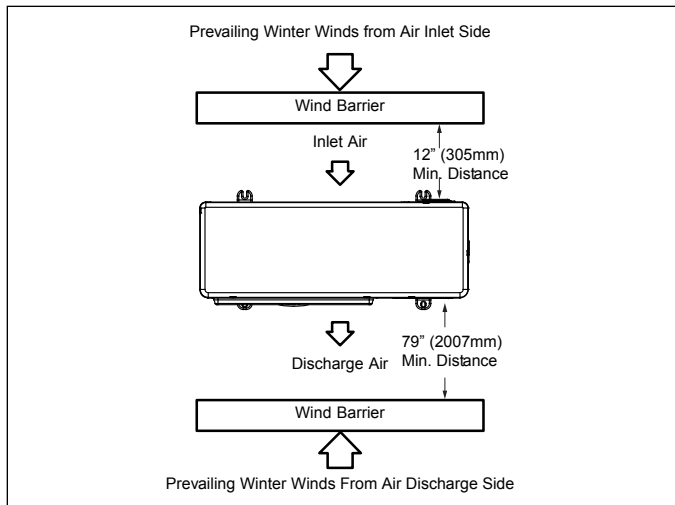

Figure 10. Wind Barrier
- When prevailing wind is into the discharge side, then position the wind barrier a minimum 79 inches (2007 mm) from the front of the unit as illustrated in "Figure 10. Wind Barrier".